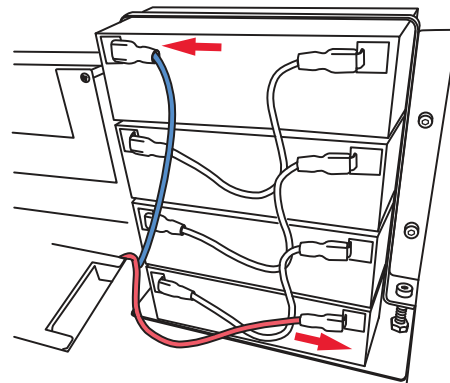

Figure 46. Reconnect the Battery Power
9. Restore power connections to the table (Figure 46):